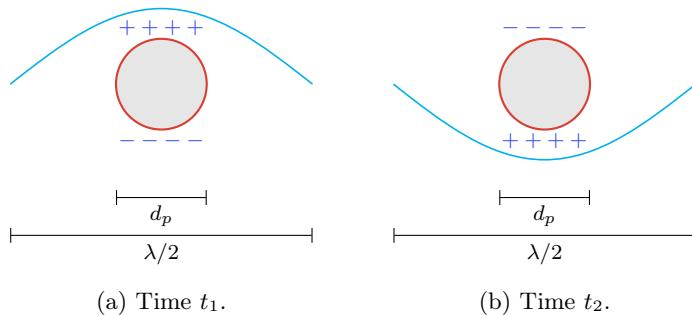

Figure 3.21: Polarizability fluctuations in SALS.
- Since we're considering SALS, we are in the  $\lambda \gg d_p$  regime (as in Figure 3.21).